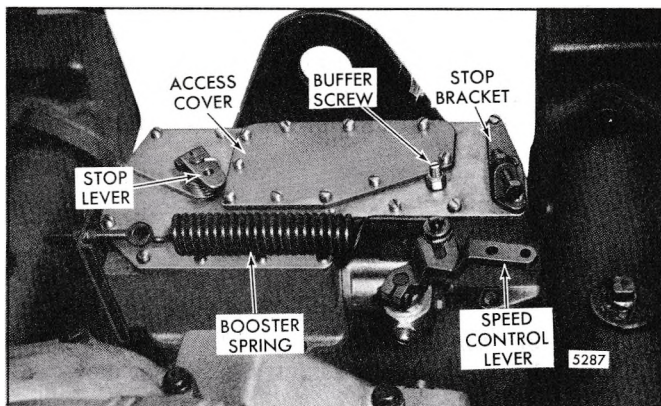

Fig. 1 - Variable Speed Governor Mounting
3. Clean and remove the governor cover (Fig. 1), including the stop lever bracket (current engines). Discard the gasket.